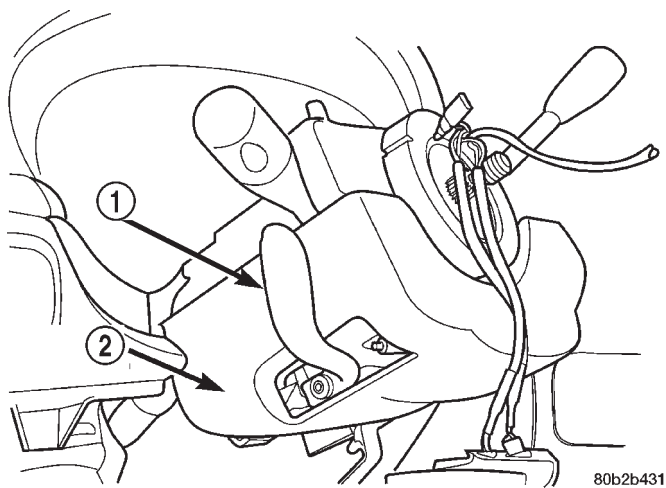
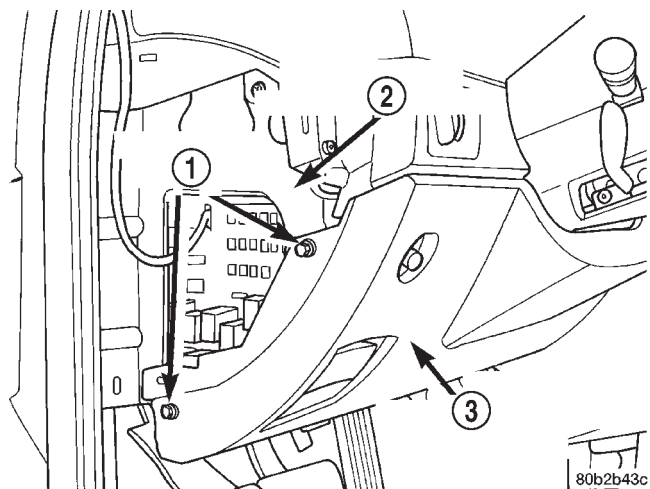

Fig. 68 Tilt Lever
Fig. 67 Lower Instrument Panel Cover Mounting Screws
- (2) Remove the two screws behind the fuse panel cover attaching the lower instrument panel cover to the instrument panel (Fig. 67).
- (3) Remove the lower instrument panel cover. The lower instrument panel cover is attached by retaining clips along the top and right edge.
(4) Remove the steering column upper shroud from the steering column using the following procedure: First, on the right seam between the upper and lower shrouds, push in on seam at the forward end. When the upper shroud unsnaps, pull the upper shroud upward away from the lower. Repeat this procedure on the opposite side of the column to release the upper shroud from the lower. Remove the upper shroud from the steering column.
(5) Remove the tilt lever (Fig. 68) from the steering column.
(8) Install the tilt lever (Fig. 68) on the steering column.
(9) Install the upper shroud on the steering column by snapping it onto the lower shroud.
(10) Install the lower instrument panel cover.
(11) Install the two screws behind the fuse panel cover attaching the lower instrument panel cover to the instrument panel (Fig. 67).